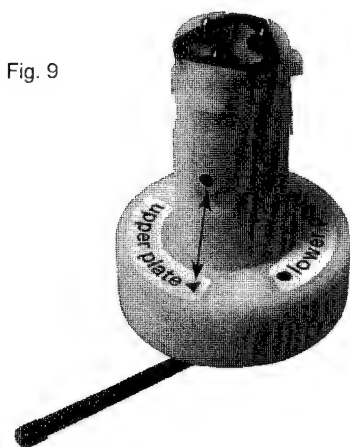

Fig. 9
- Change the tool to "upper clamping element" and position the clamping element exactly. (Fig. 9)
- Unhook the tension arm spring (pos. 11), to avoid the tension arm spring being pre-loaded.
- At the bottom side of the drive assy, partially unhinge the sensor mounting print and remove the tension lever (pos.112).
- Compress the two snap hooks by means of a pair of tweezers (Fig. 9) and remove the roller assy (A) from the plate (B).